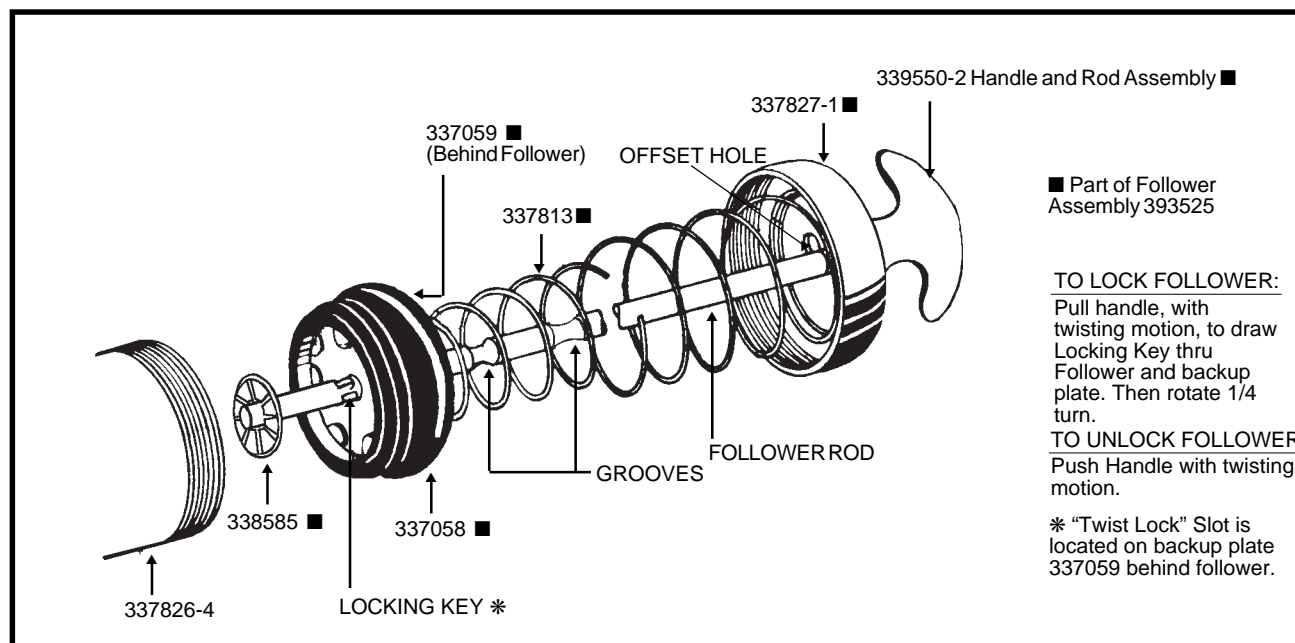

Figure 5: Cylinder Configuration with Locking and Unlocking Instructions
2. Pull follower rod out and engage first groove on follower rod with offset hole in end cap (Figure 5).
6. Release follower rod from end cap offset hole and push into cylinder (Figure 5).
2. Pull out follower rod and engage locking key in "twist-lock" slot on follower backup plate 337059 (Figure 5).